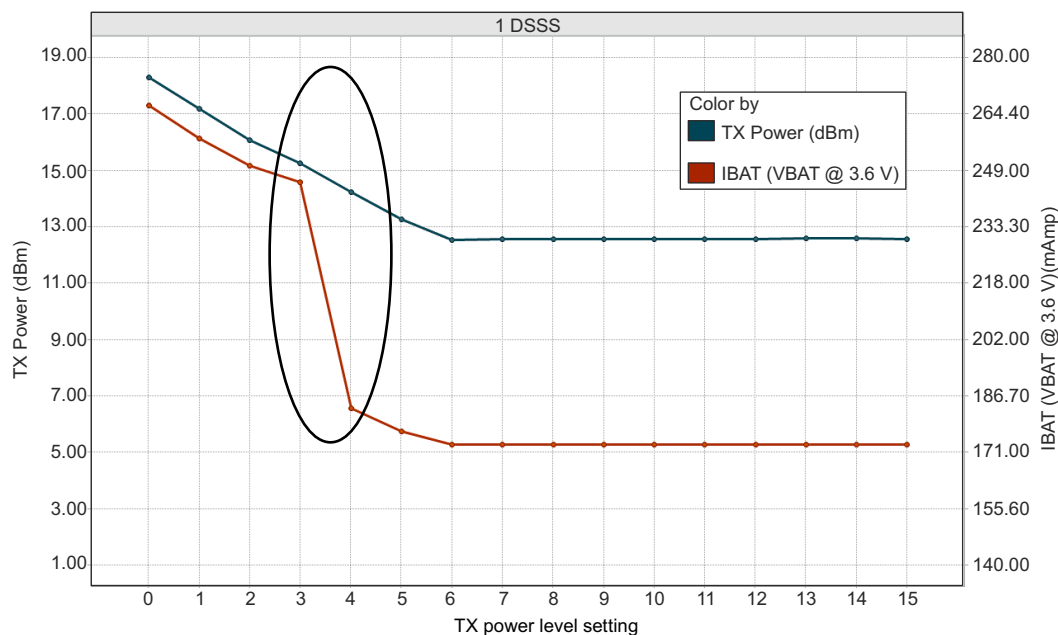
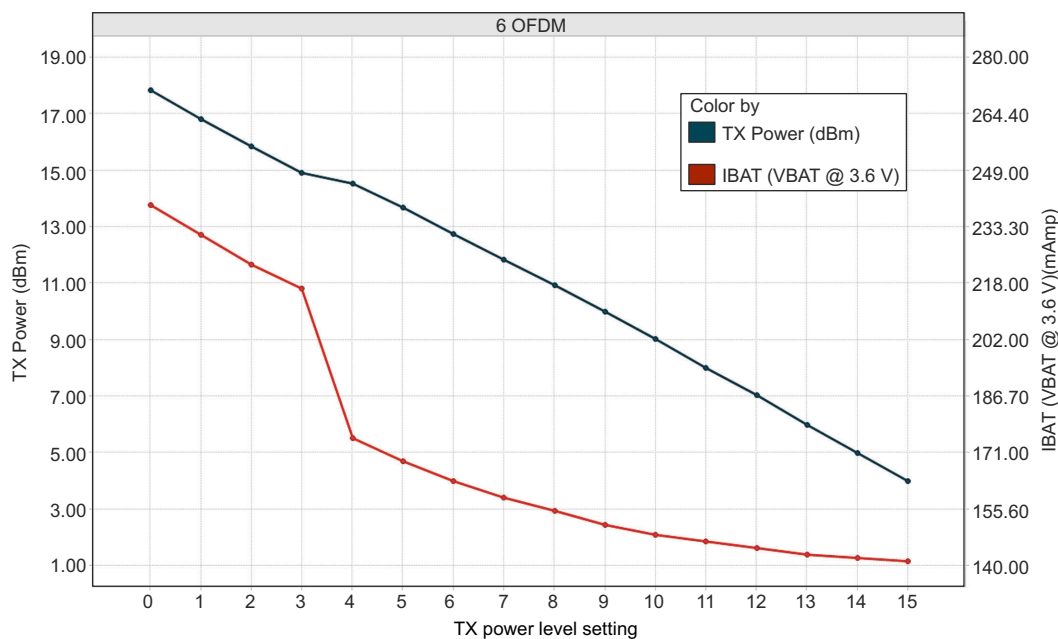
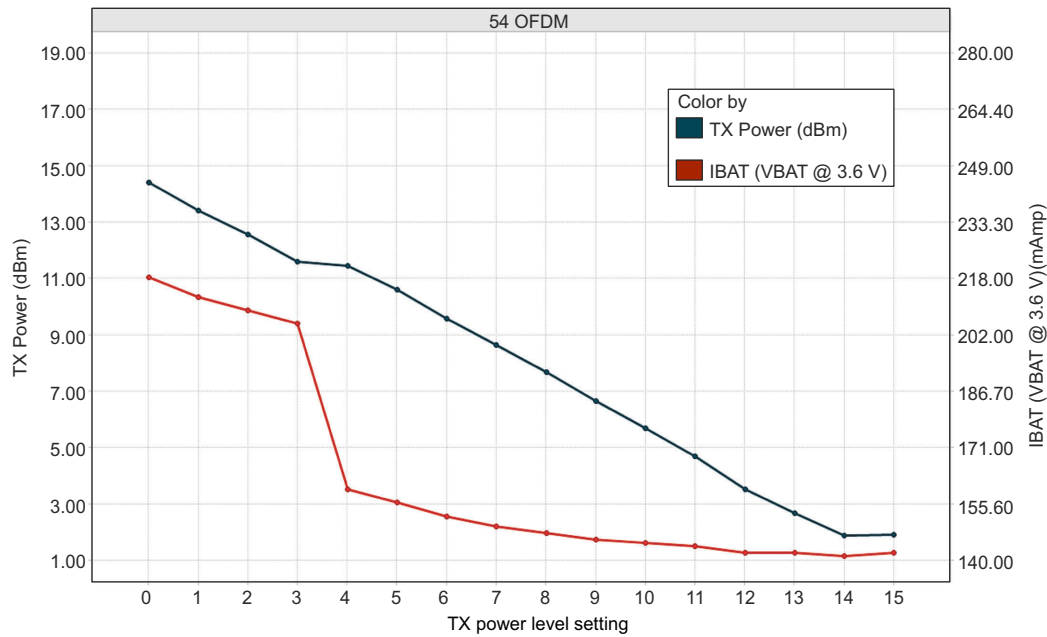

Figure 7-1. TX Power and IBAT vs TX Power Level Settings (1 DSSS)
Figure 7-2. TX Power and IBAT vs TX Power Level Settings (6 OFDM)
Figure 7-3. TX Power and IBAT vs TX Power Level Settings (54 OFDM)
- (1) TX power level = 0 implies maximum power (see Figure 7-1, Figure 7-2, and Figure 7-3). TX power level = 4 implies output power backed off approximately 4 dB.
(2) The CC3135 system is a constant power-source system. The active current numbers scale based on the V_{BAT} voltage supplied.
(3) The RX current is measured with a 1-Mbps throughput rate.
(4) DTIM = 1
(5) The complete calibration can take up to 17 mJ of energy from the battery over a time of 24 ms. In default mode, calibration is performed sparingly, and typically occurs when re-enabling the NWP and when the temperature has changed by more than 20°C. There are two additional calibration modes that may be used to reduced or completely eliminate the calibration event. For further details, see CC31XX CC32XX SimpleLink™ Wi-Fi® and IoT Network Processor Programmer's Guide.
- (2) The CC3135 system is a constant power-source system. The active current numbers scale based on the V_{BAT} voltage supplied.
- (3) The RX current is measured with a 1-Mbps throughput rate.
- (4) DTIM = 1
- (5) The complete calibration can take up to 17 mJ of energy from the battery over a time of 24 ms. In default mode, calibration is performed sparingly, and typically occurs when re-enabling the NWP and when the temperature has changed by more than 20°C . There are two additional calibration modes that may be used to reduced or completely eliminate the calibration event. For further details, see CC31XX, CC32XX SimpleLink™ Wi-Fi® and IoT Network Processor Programmer's Guide.
Figure 7-1, Figure 7-2, and Figure 7-3 show TX power and IBAT versus TX power level settings for the CC3135 device at modulations of 1 DSSS, 6 OFDM, and 54 OFDM, respectively.
In Figure 7-1, the area enclosed in the circle represents a significant reduction in current during transition from TX power level 3 to level 4. In the case of lower range requirements (14-dBm output power), TI recommends using TX power level 4 to reduce the current.